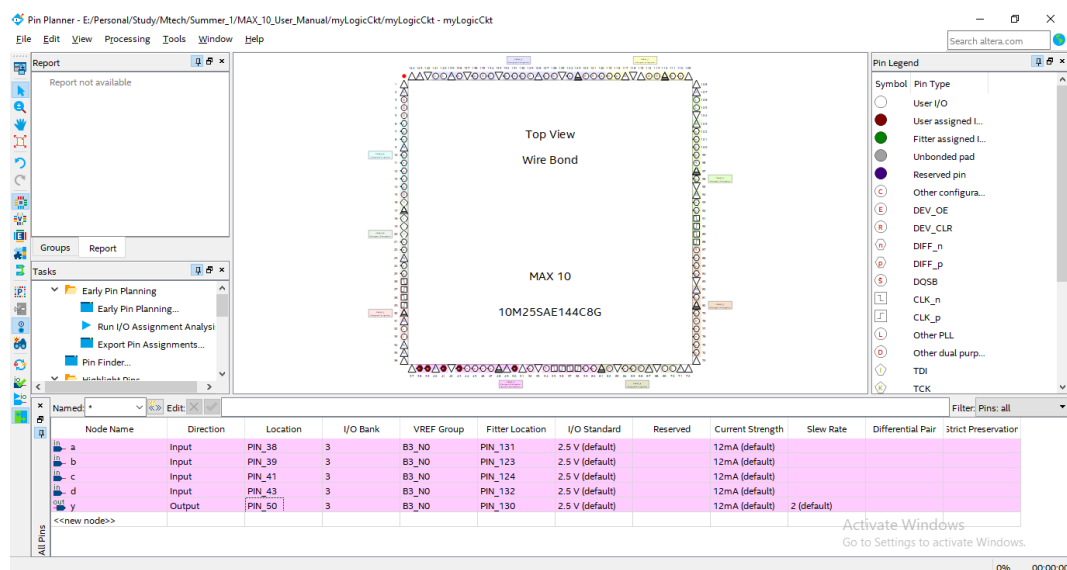

Figure 7: Quartus pin planner tool window
14. Go to Assignments → Pin Planner. A new window opens up, showing you the schematic of the device selected (in this case, MAX 10), and below, the signal lines that need to be pin assigned under All Pins section. Referring to the figure 7, In-front of a Node Name 'a' click in the blank space in column Location. Type 38 and automatically PIN_38 will appear.